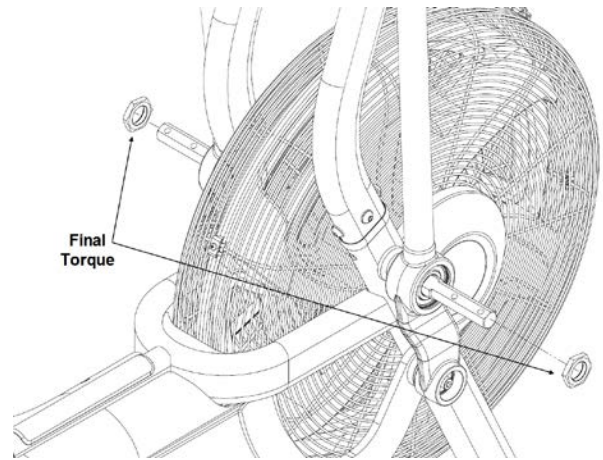

Fig. 10
9. Mount the left & right grip arms (Fig. 10) onto the corresponding pivot shafts located on the base of the machine while mating the end of the grip arms to each of the crank linkages and keeping the arms together by loosely inserting a socket head cap screw with washer to each joint.